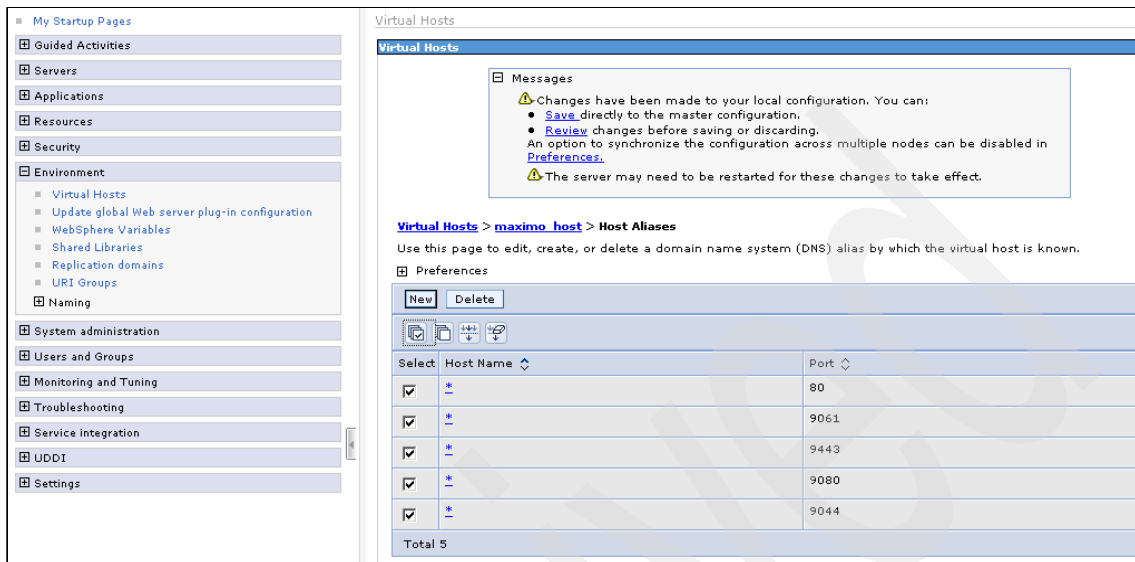

Figure A-17 Display HTTP port numbers
15. Click **Save** (see Figure A-17 on page 270).
After configuring the ports, you view a list of the configured ports as shown in Figure A-17.